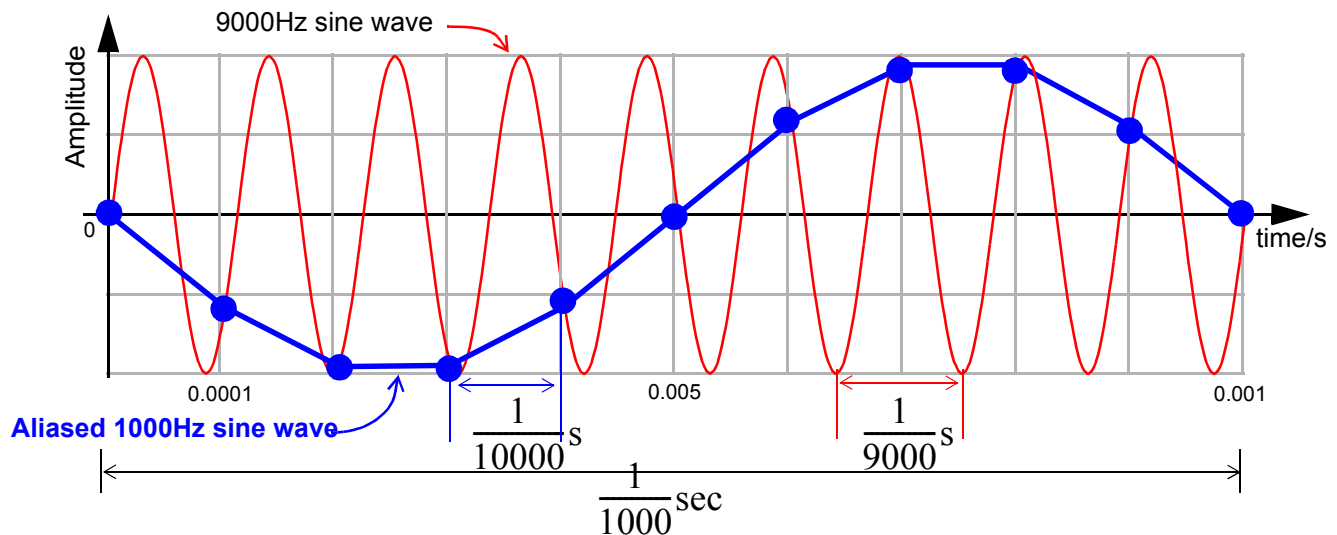

Figure 5.5: Aliasing of a 9000Hz sine to a 1000Hz sine when sampled at 10000Hz
- (c) What happens to the phase of aliased signals (view Figure 5.5 for some clues)!